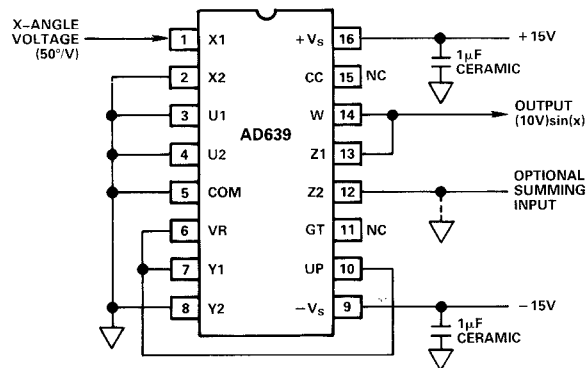

Figure 2. Connections for the Sine Mode with Amplitude Preset to 10V
The AD639 can generate either (1) a low-distortion continuous sine wave from a repetitive triwave input or (2) a high-accuracy sine function for use in computational applications. In most cases, the choice of preset or externally-controlled amplitude will make little difference to distortion or accuracy, and both methods are used in this section. In all of the *normal* modes, the Z2 input can be used either to sum a further signal to the output (or introduce an optional output offset trim). The denominator is set to unity by making  $y = 90^\circ$ , using the +1.8V output. Figure 2 shows typical connections. The 10V preset is selected, using  $V_r$  as a control input to UP, and the ideal output is  $(10V)\sin(x)$ . In practice, five basic types of error arise:
1. **X-angle scaling error:** The amount by which the angle generated for each volt of X-input differs from  $50^\circ$ . In triwave-to-sinewave (CW) applications this introduces odd-order harmonic distortion, and is indistinguishable from an incorrect triwave amplitude.